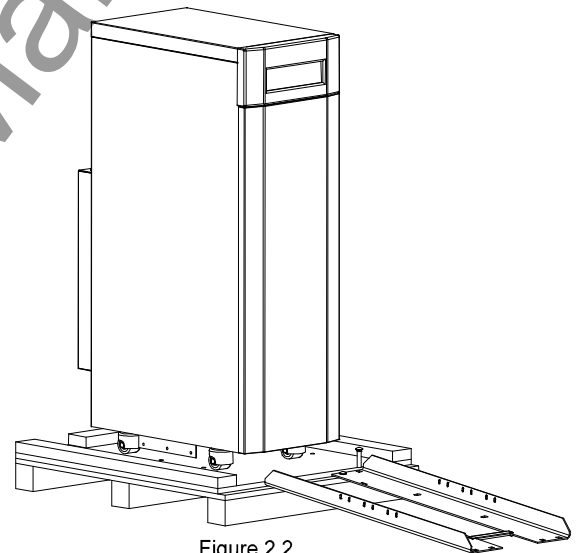

Figure 2.2
2) Unbolt the rails from both the unit and the shipping pallet. Place the rails on the front of the pallet as shown in figure 2.2 and figure 2.3. Use the four 1/2x3" bolts used to secure the rails to the shipping pallet to attach the rails as shown to the front of the pallet.